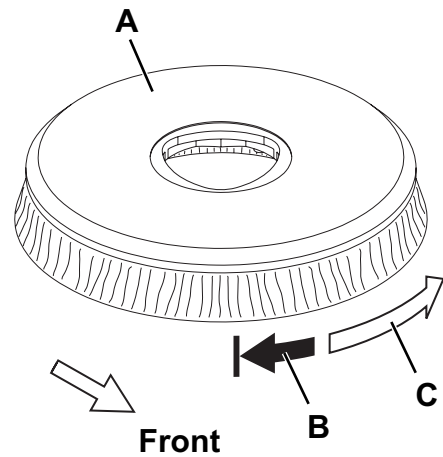

Figure 5
- When the deck (13) is lifted, grab the brush/pad-holder (A, Fig. 5) with the hands and turn it first in one direction (B) and then in the other direction (C) to release it.